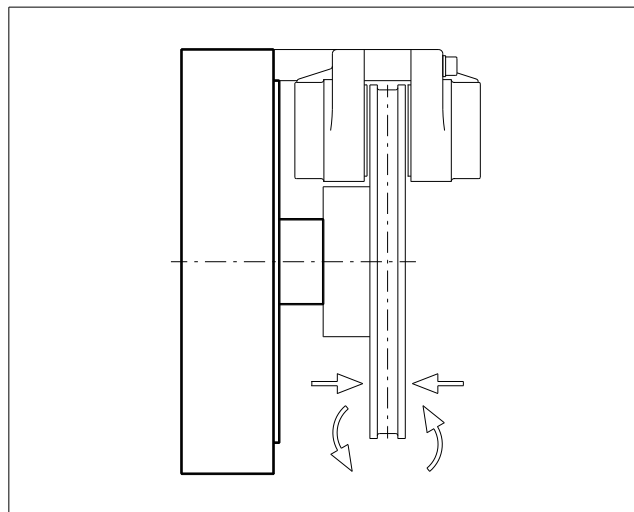

Figure 3
6. Make sure that the self-ventilating disc is centered and rotates freely between the lining pads of the brake unit (Figure 3).